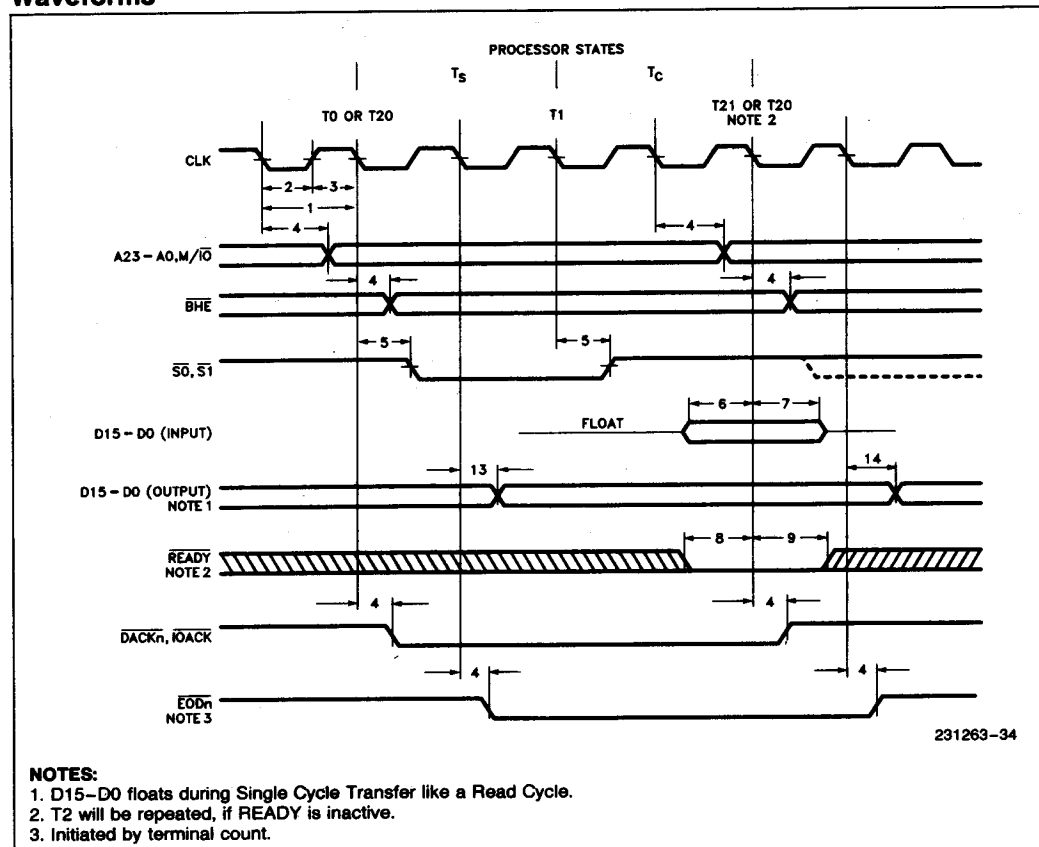

Figure 35. Timing of an Active Bus Cycle (286 and Remote Modes)
- Figure 35 was updated. The new timing diagram now illustrates DACK#, IOACK#, and EODn# timings during active bus cycles in the 80286 and remote modes.